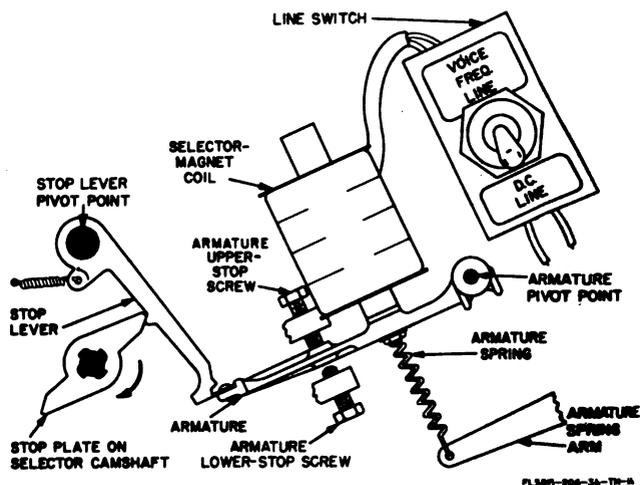

Figure 2-14. Armature held in marking position by energized selector magnet.
a. Condition During Marking Impulse. When either a marking code impulse or the stop impulse is received current flows through the two selector-magnet coils and a magnetic field is present around the coils (fig. 2-14). The magnetic field is strong enough to overcome the tension of the armature spring and the armature is held against the armature upper-stop screw (marking position of armature).
c. *Starting Selector Camshaft Rotation.* When the start impulse is received, the armature spring pulls the armature downward, against the armature lower-stop screw (para 2-17b) and the lower end of the armature releases the stop lever (fig. 2-14). Pressure of the stop plate causes the stop lever to pivot counterclockwise slightly, and the selector camshaft is permitted to start turning (B, fig. 2-16).
The five code impulses of a code group are received in sequence immediately after the selector camshaft starts turning (para 2-17c). Each of the code impulses is either a marking (current) or spacing (no-current) impulse (fig. 2-2), as determined by the code group assigned to the character to be printed, or the nonprinting operation to be performed by the page printer. A marking code impulse always causes the armature to be drawn upward, against its upper-stop screw (fig. 2-14). A spacing code impulse always allows the armature spring to pull the armature downward against its lower-stop screw. Five selector cams (fig. 2-15 and 2-17), five selector levers, and five Y-levers (one of each for each code impulse), are used to record the position of the armature while each of the five code impulses are being received. The selector cams are staggered around one-half the circumference of the selector camshaft (fig. 2-15), which makes 1/2 revolution for each code group received. The first selector cam and its associated selector lever and Y-lever record the nature (marking or spacing) of the first code impulse; the second
- 1 Start impulse received in selector-magnet coils (fig. 2-14).